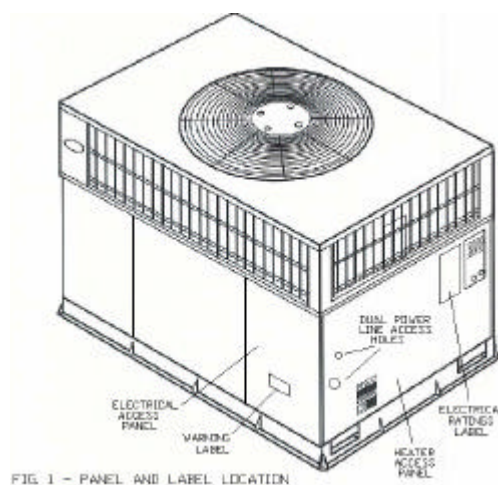

FIG 1 - PANEL AND LABEL LOCATION
3. Remove access panel to heater compartment (See Fig. 1).
8. Remove electrical access panel (See Fig. 1) and inspect for sufficient clearance to punch a second power circuit above the existing high voltage knockout. Use a knock out punch to make a 7/8-in hole.
9. Attach Warning Label and electric heater dual point connection installer label to equipment (See Fig. 1).
5. Insert second field power line through the electrical heater access panel top hole (See Fig. 1) and connect to unit contactor black and yellow leads using the wire nuts.